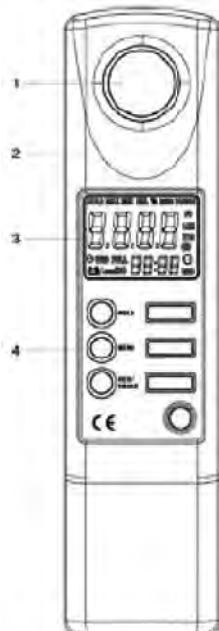

Figure 1
1. Meter structure (Figure 1,Table 1)